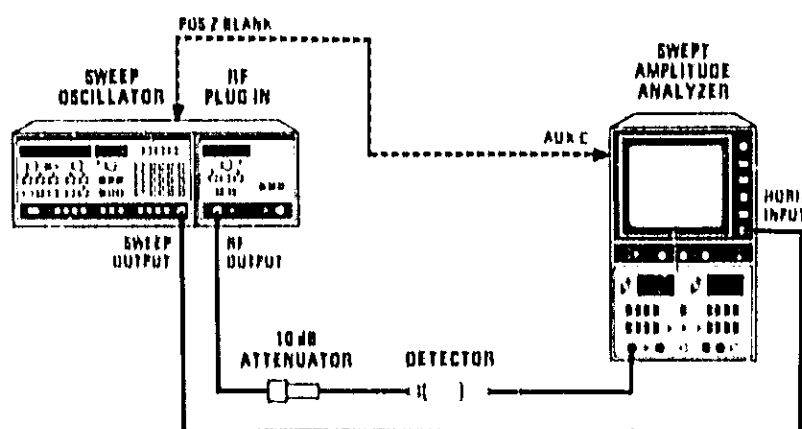
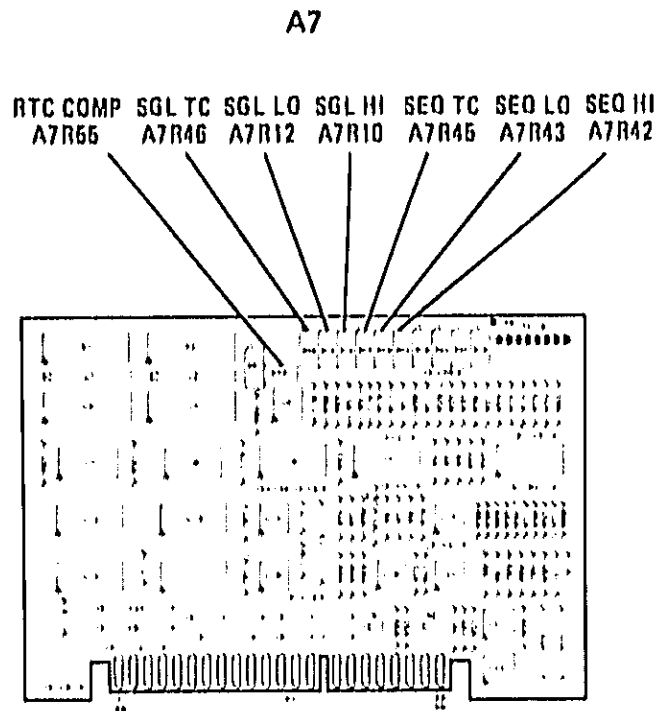

Figure 5-23. YTM Delay Compensation Adjustment Test Setup
Figure 5-24. YTM Delay Compensation Adjustment Locations
1. Connect the equipment as shown in Figure 5-23. Do not connect the BNC cable between the 8350A rear panel POS Z BLANK and the 182T AUX C connector yet. Preset A7R45 (SEQ TC) fully counter-clockwise. Refer to Figure 5-24 for adjustment locations. Allow the equipment to warm up for 1 hour.